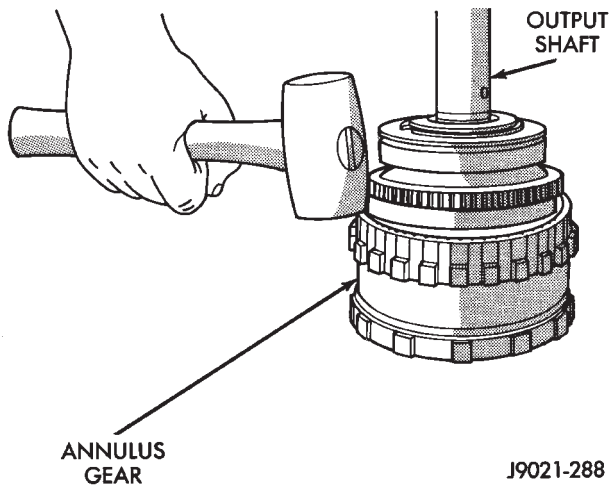

Fig. 219 Annulus Gear Removal
- (11) Remove annulus gear from output shaft (Fig. 219). Use rawhide or plastic mallet to tap gear off shaft.